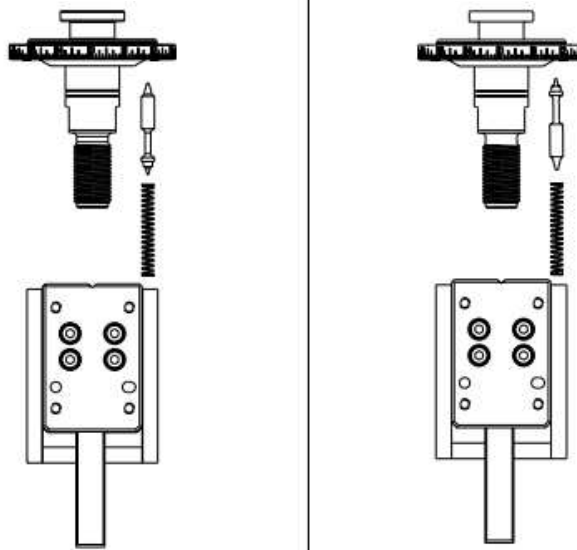

Figure 6
1. The wire crimp height adjusts can be locked in position by changing the Detent Pin orientation (see Figure 6).